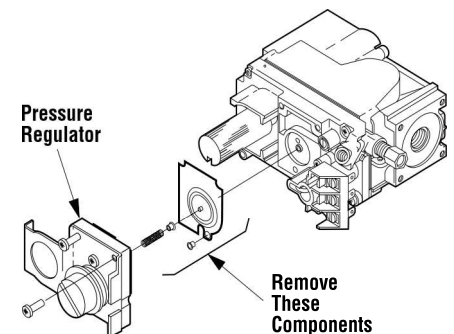

Figure 25
Step 4. SIT Systems - Refer to *Figure 25* and the instructions provided with the kit. Using a Torx T20, remove and discard the three pressure regulator mounting screws. Remove the pressure regulator, spring, poppet, diaphragm and bushing. **Discard all removed components.** Ensure the rubber gasket installed on the back of the replacement pressure regulator is properly positioned and install the new pressure regulator using the new screws supplied with the kit. Tighten screws to 25 in. lb. torque.